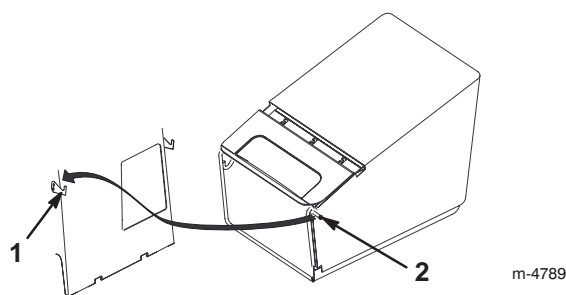

Figure 16
4. Hang the grass bag frame pins onto the hooks as shown in Figure 16.
4. Lift the grass bag frame pins off the hooks and out of the opening as shown in Figure 16.